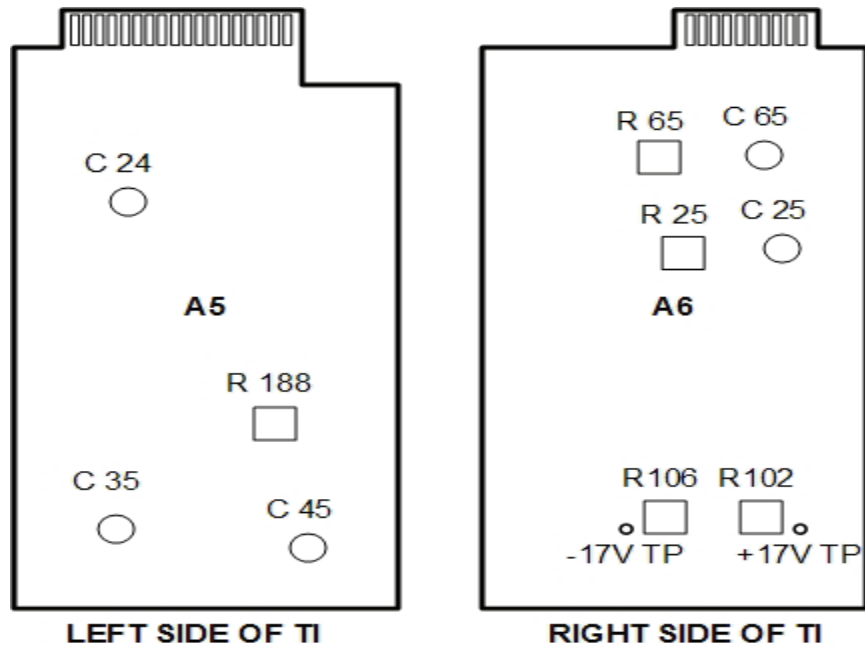

Figure 1. Boards A5 and A6 - adjustment locations.
b. Adjustments. Adjust A5C24 (fig. 1) for an indication of 51.5 MHz on frequency counter (R).
b. Adjustments. Adjust A5C35 (fig. 1) for a pulse delay of 1.2 μs (R).
b. Adjustments. Adjust A5C45 (fig. 1) for a pulse width of 1.3 μs. (R).
(1) Adjust A6C25 and A6R25 (fig. 1) until preshoot, overshoot, and ringing is less than 5 percent of pulse amplitude (R).
(2) Adjust A6C65 and A6R65 (fig. 1) until preshoot, overshoot, and ringing is less than 5 percent of pulse amplitude (R).
(1) Adjust **PULSE PERIOD VERNIER** control for a display of one complete pulse on oscilloscope.
(2) Set **PULSE DOUBLE/NORM** switch to **DOUBLE**.
(3) Adjust **PULSE DELAY VERNIER** control to produce two pulses spaced at least 20 ns between leading edges. If width of each pulse is not the same, perform **b** below.
b. Adjustments. Adjust A5R188 (fig. 1) until width of first pulse is same as second pulse (R).
(1) Connect multimeter between +17 V TP (fig. 1) and ground. If multimeter does not indicate between 16.9 and 17.1 V dc, perform **b** (1) below.
(2) Connect multimeter between -17 TP (fig. 1) and ground. If multimeter does not indicate between -16.9 and -17.1 V dc, perform **b** (2) below.
(1) Adjust A6R102 (fig. 1) for a 17.00 V dc indication on multimeter (R).
(2) Adjust A6R106 (fig. 1) for a -17.00 V dc indication on multimeter (R).